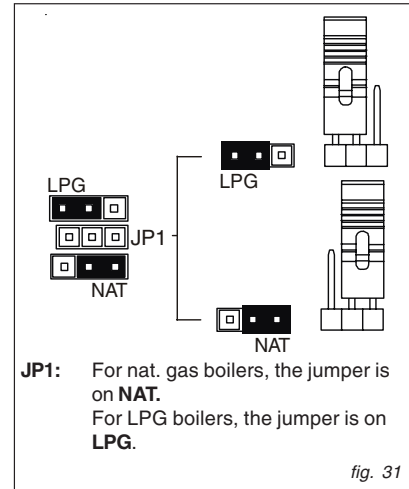

fig. 31
- position the jumper on the modulation PCB in the panel board as shown in figure 31;